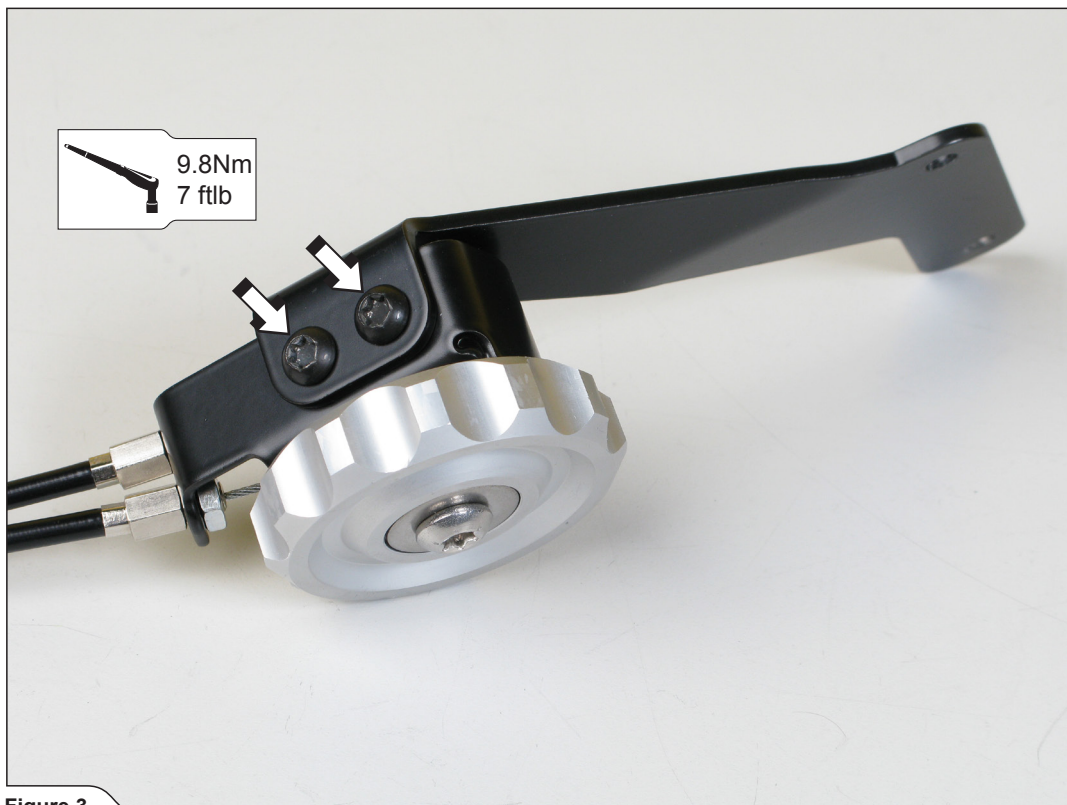

Figure 3
4. Assemble the additional bracket and valve switch, using M6x12 bolts from Akrapovič installation kit (**Figure 3**).